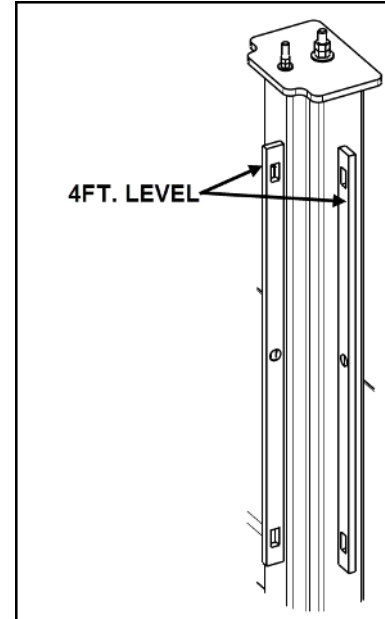

Figure 31: Leveling
6. Use a 4' level, to level the posts. See **Figure 31**.